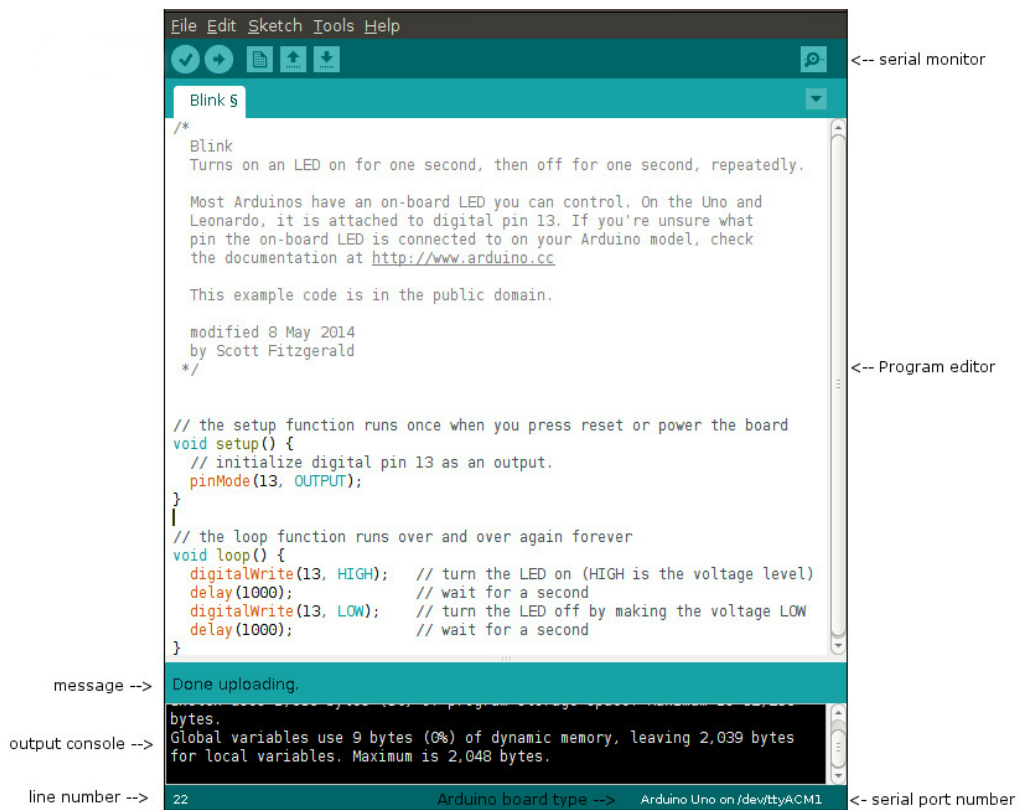

Figure 3.4: Arduino IDE
The Arduino development environment, as shown in Fig. 3.4, consists of a text editor for writing code, a message area, a text console, a toolbar with buttons for common functions, and a series of menus. It connects to the Arduino hardware to upload programs and communicate with them.
6. Serial Monitor: Opens the serial port window - the location of this is shown in the top right hand corner of Fig. 3.4